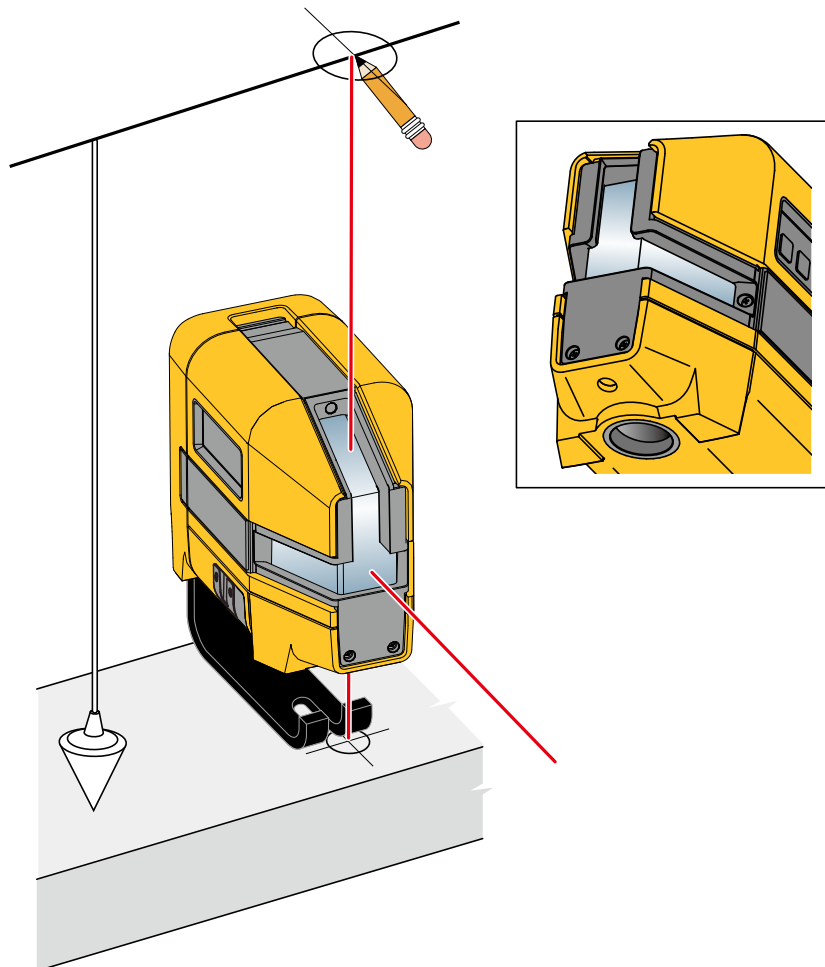

Figure 5. New Plumb Mark
2. Center the down laser over the cross mark. See Figure 5.